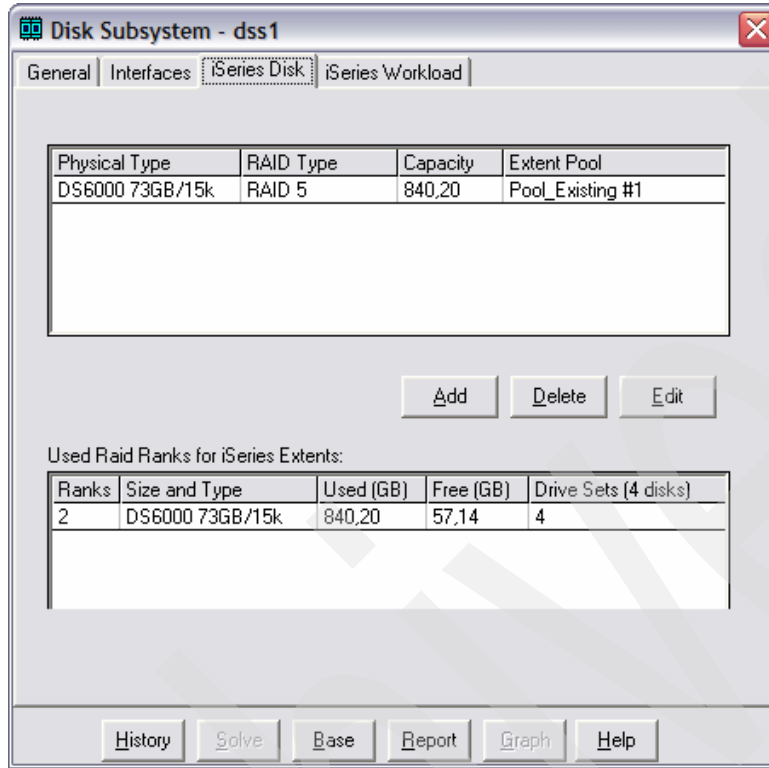

Figure 4-108 Capacity in Disk Magic
- d. In the Disk Subsystem - dss1 window, click the iSeries Disk tab (Figure 4-108). Observe that an extent pool is already configured for the Existing #1 workload. Its capacity is equal to the capacity that you specified in the Storage field of the WLE.